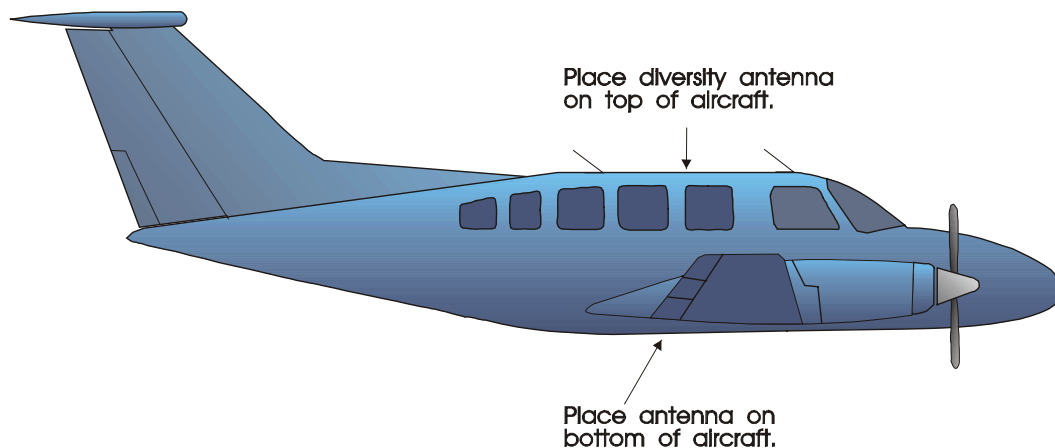
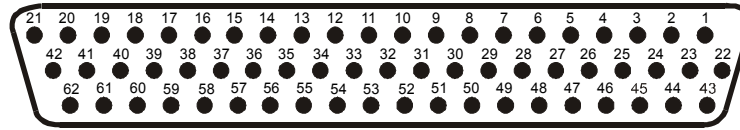

Figure 2-1. Antenna Installation Considerations
Figure 4-1. Rear Connector, J3301
1. Assemble the connector/rack kit according to figure 4-2. Install the rack assembly according to the dimensions given in figures 4-1 and paragraph 1.4.2 Physical Characteristics of the GTX 330. Mounting brackets are not supplied due to the wide range of mounting configurations available. Suitable mounting brackets may be fabricated from sheet metal or angle stock. To insure a sturdy mount, rear support for the unit must be provided.
All electrical connections, except for the antenna, are made through a single, 62 pin D-subminiature connector. Figure 2-1 defines the electrical characteristics of all input and output signals and identifies the cable requirements for each signal. Required connector and associated hardware are supplied in the connector kit (P/N 011-00583-00). See figures 4-1 and 4-2 for interconnect wiring diagrams.